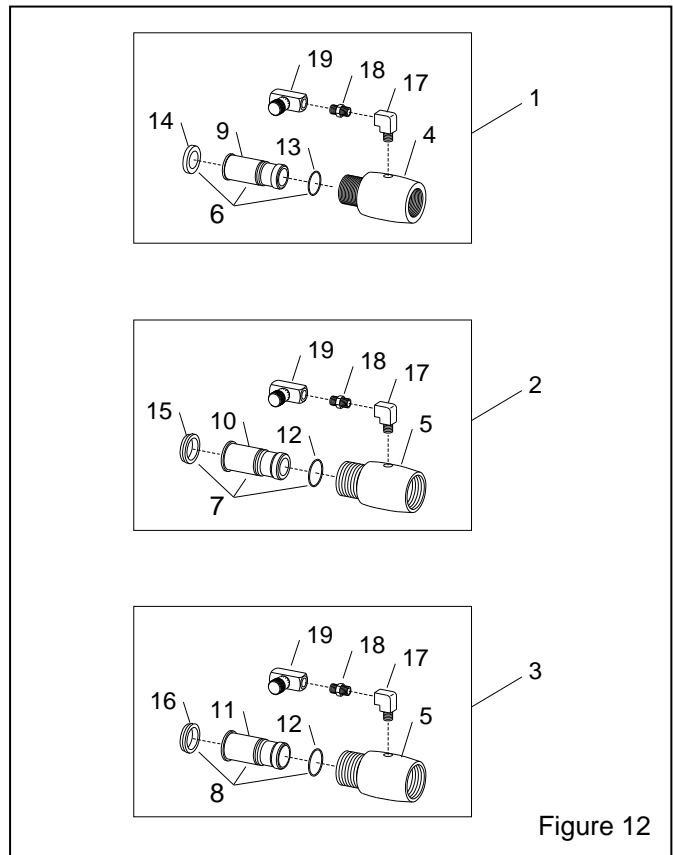

Figure 12
Wetblast injector system for one operator Includes pump module, 50-ft hydraulic hose, and one the following injector-adaptor assembly as shown in Section 8.3, Figure 12
Wetblast injector system for two operators Includes pump module, two 50-ft hydraulic hoses, and two of the following injector-adaptor assemblies as shown in Section 8.3, Figure 12
8.3 Injector-Adaptor Assemblies, Figure 12